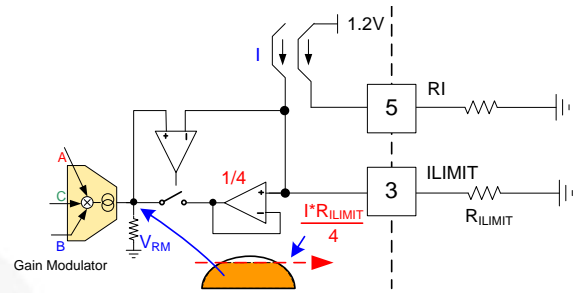
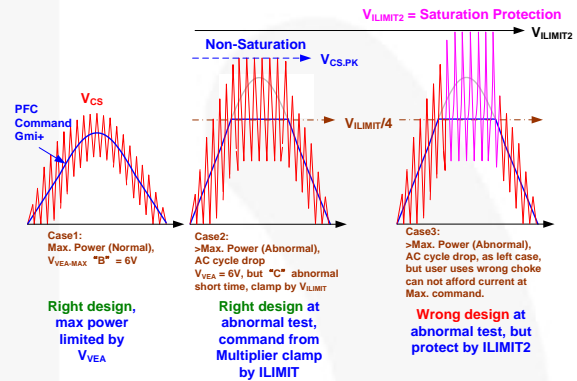

Figure 22. Current Command Limit by ILIMIT
Figure 23. ILIMIT and ILIMIT2 Setting
**Current Limit 1** (abnormal state): The current command from the gain modulator is  $k \cdot I_{AC} \cdot V_{VEA} / V_{LPK}^2$ . When in abnormal state (e.g. an AC cycle miss and return in a short period), the VLPK has a delay before returning to the original level. This delay significantly increases the current command. If the command is greater than the limit clamp level, VLIMIT, it works as shown in Figure 22 and Figure 23. The peak current of this state can be used as the maximum current designed for each channel such that inductor current is not saturated.